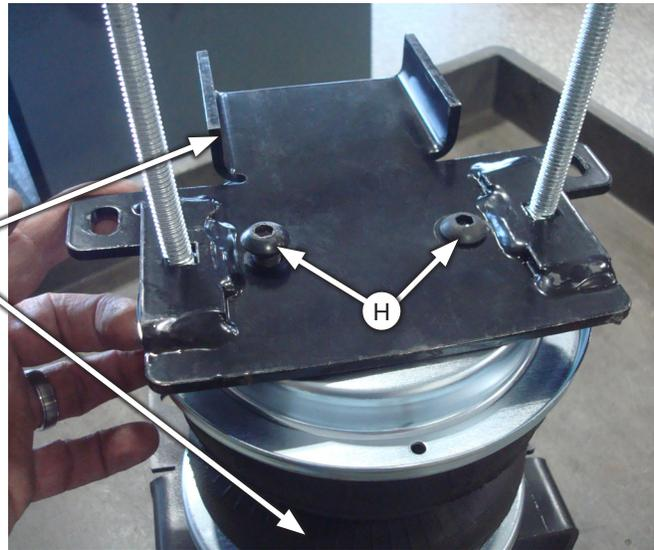

Fig. 11
- Set a roll plate (F) and the lower bracket with the carriage bolts inserted, onto the bottom of the air spring assembly and attach with the button-head cap screws (H) (Fig. 11). Torque to no more than 20 lb.-ft. (27Nm).